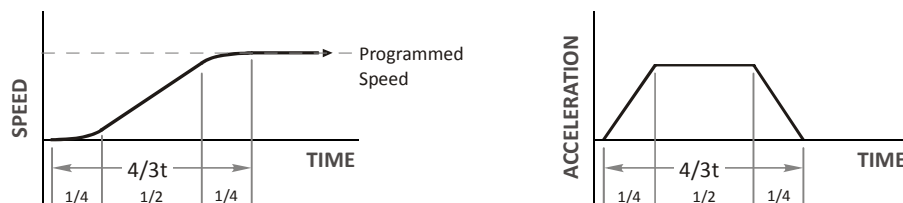

Figure R2.3 Trapezoidal S-Curve Acceleration
Trapezoidal S-Curve acceleration has a period of constant acceleration in the middle of the acceleration phase. This constant acceleration section lasts for one half of the total acceleration time. The acceleration value increases until it reaches the value of the Acceleration Parameter. At this point, the acceleration remains constant until the IANF2(E) decreases the acceleration value until it equals zero when the programmed maximum speed is reached. Figure R2.3 shows a trapezoidal curve. With this setting, the Trapezoidal S-Curve acceleration only requires 33% more time to achieve the same velocity as a Constant Acceleration move.